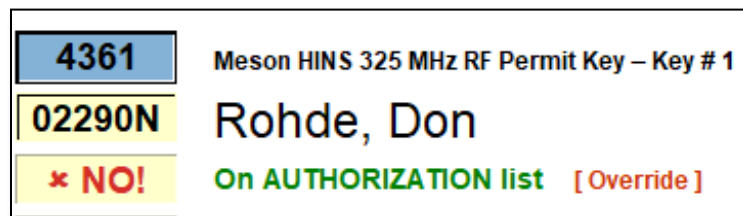

Figure 7
- Some areas maintain a permanent list of authorized entrants. When issuing a key to these areas, a pop-up box (*Figure 7*) may appear **prior** to the training qualification check, indicating the person is not on the authorized access list. Hover the cursor over the key number to display the access list for that key.